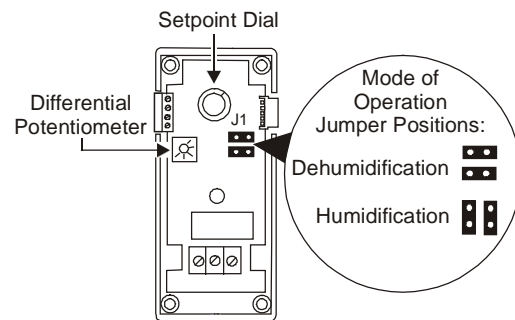

Figure 2: W351 Electronic On/Off Humidity Control; Setpoint and Differential Adjustments; Humidification and Dehumidification Modes
The W351 control has an external range scale and setpoint dial, a front panel LED indicating when the relay is energized, and a SPDT relay output. (See Figure 2.) Features include:
2. Position the jumpers on jumper block **J1** vertically for humidification, or horizontally for dehumidification. (See Figure 2.) The jumpers are factory-set for humidification.
3. Adjust the differential by rotating the differential potentiometer to the desired setting. (See Figure 2.) Rotate the potentiometer clockwise to increase the differential.
4. Replace the cover, tighten the four captive cover screws, and adjust the setpoint by rotating the setpoint dial to the desired % RH setpoint. (See Figure 2.)